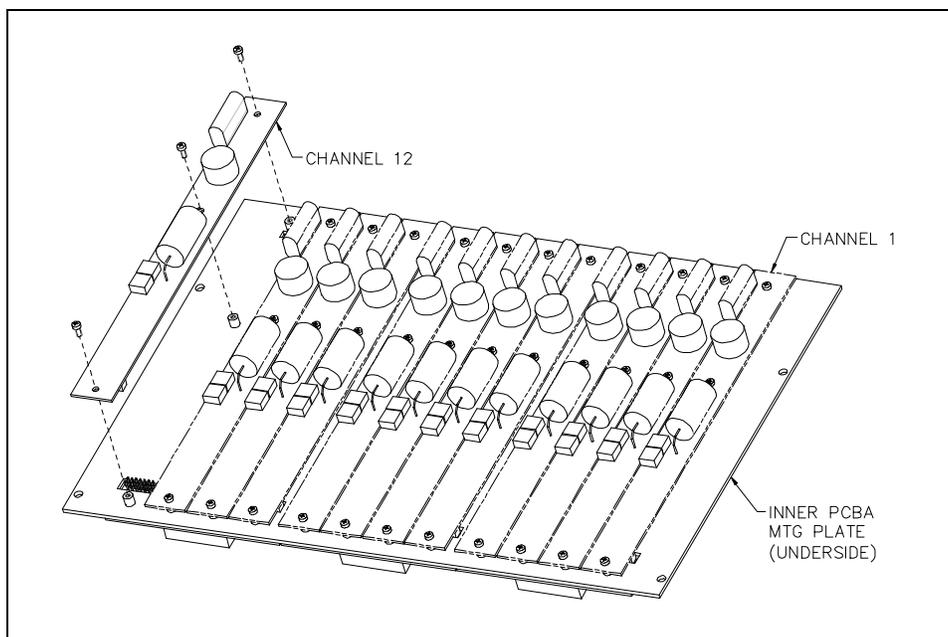

Figure 2.
8. Fasten the CDC PCBA to the inner PCBA mounting plate using the 3 supplied #4-40 screws. See Figure 2.
7. Fasten the CDC PCBA to the inner PCBA mounting plate using the 3 supplied #4-40 screws. See Figure 2.